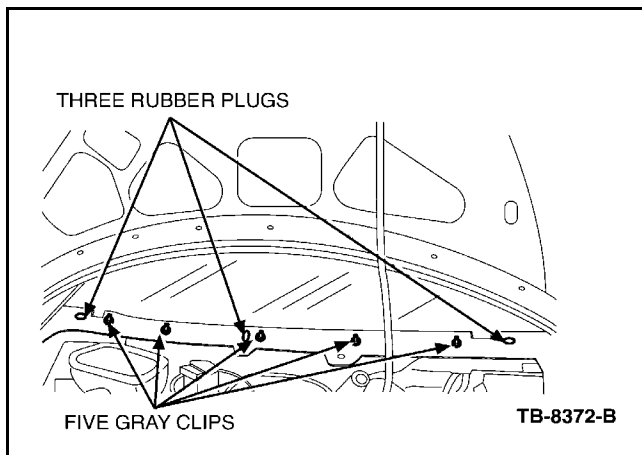

Figure 8 - Article 088-2005-5551
13. Check that the three (3) rubber plugs and five (5) gray plastic clips are fully seated. Add Clear Silicone Rubber (TA-32, or equivalent) around the three (3) rubber plugs and the five (5) gray plastic clips (Figure 8).